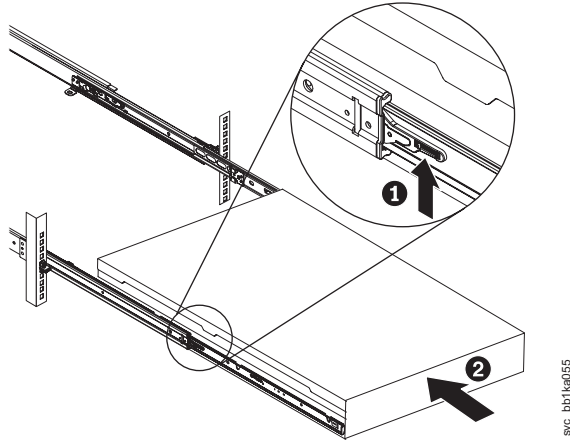

Figure 139. Raising the SAN Volume Controller 2145-CF8 or 2145-CG8 locking levers of the slide rails of the rack
9. Lift the locking levers (**1** in Figure 139 on page 155) on the slide rails and push the server **2** all the way into the rack until it clicks into place.